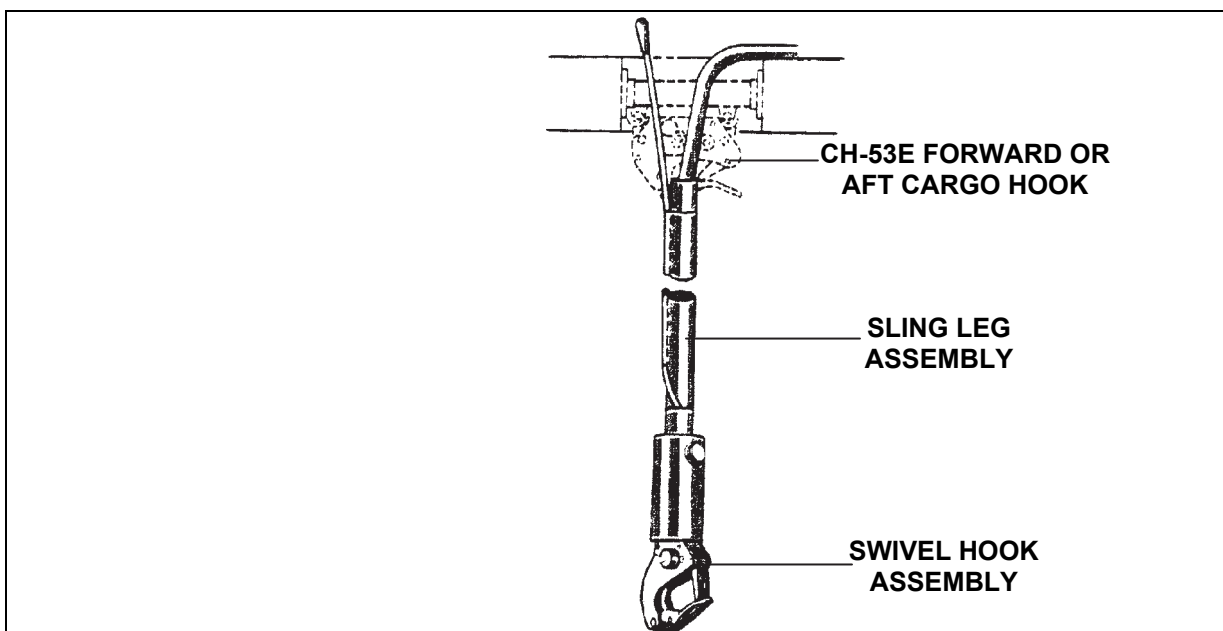

Figure 5-8. H-53E Dual-Point Pendant System
- **Aircraft Position.** The hookup teams must constantly be aware of the position of the aircraft and cargo hook. It is difficult for the aircrew member to watch both hookup teams as the aircraft hovers over the load. The pendant system on the H-53E (figure 5-8) enhances hookup team safety by increasing load separation. The cargo reach pendant enhances hookup team safety by increasing load separation on the CH-47.